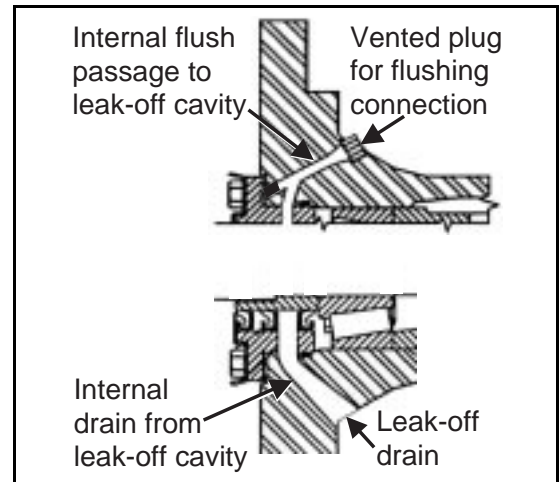

FIGURE 5 (MSSM0273AE) — Internal Flushing Passage and Leak-off
2. Pump approximately two quarts (1.9 liters) of mineral spirits into the flushing connection until the spirits flow easily out of the leak-off drains. FIGURE 5 shows the internal passage from the flushing inlet, through the leak-off cavity, and the internal drain to the exterior of the housing.